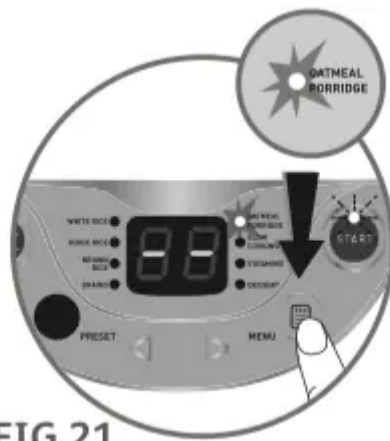

FIG.21
- Press "Menu" button while in standby mode until the "Oatmeal/Porridge" cooking indicator light turns on, the digital screen will display "--" and the "Start" indicator light will flicker – Fig. 21. Press the "Start" button, the cooker will enter "Oatmeal/Porridge" cooking model, the "Start" indicator light will remain on and the digital screen will display "-" – Fig.17.